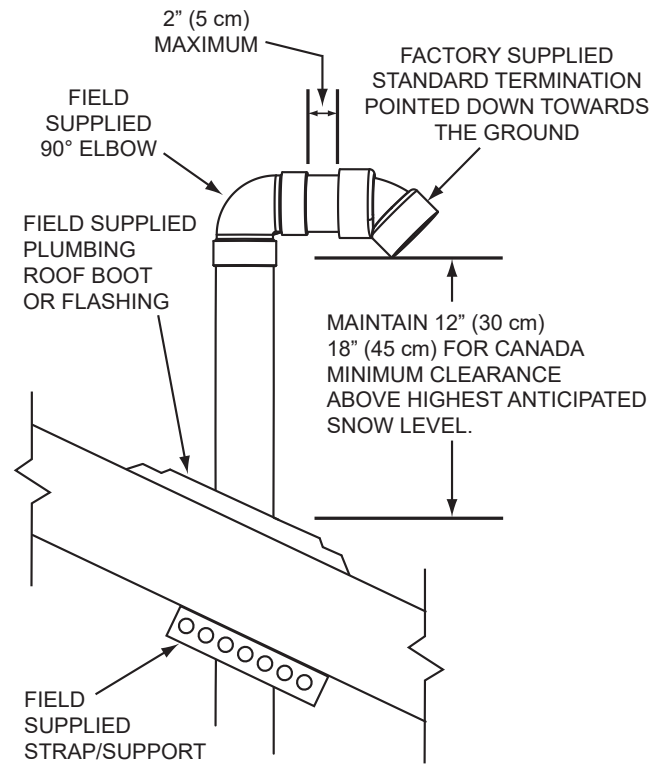
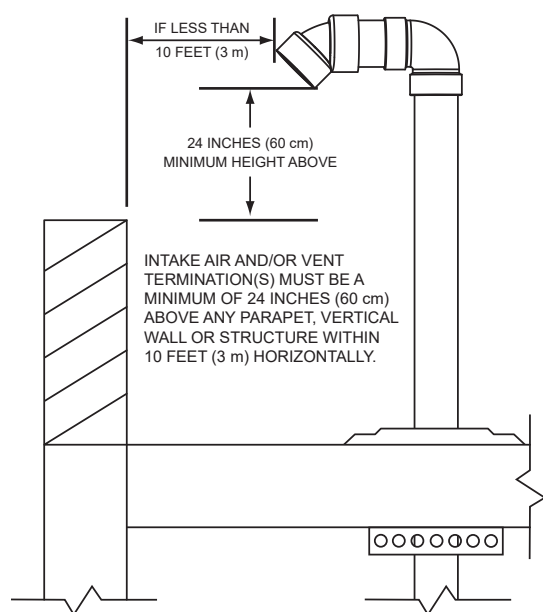
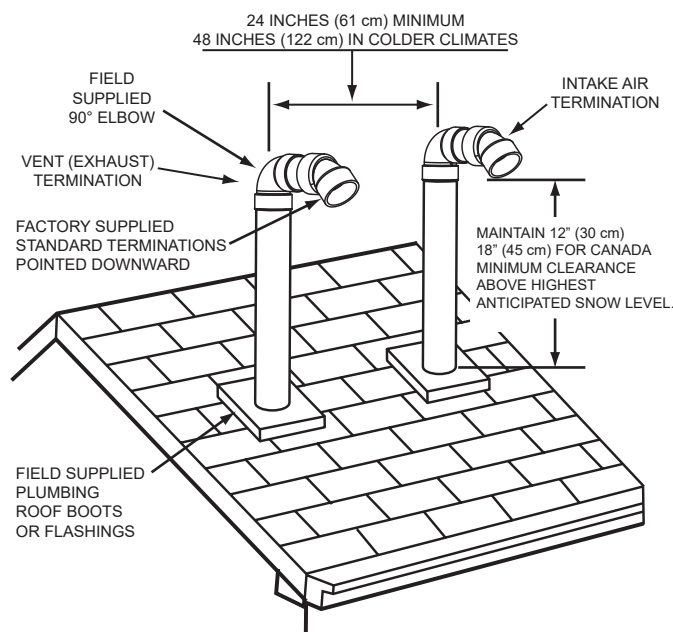

**Figure 31. Vertical Termination(s) Installation**
**Figure 32. Vertical Termination(s) Flat Roof Parapet Clearance**
**Figure 33. Vertical Termination - Direct Vent**
2. If installing only the vent (exhaust) piping in a power-vent configuration vertically through the roof, ensure that all exterior vertical clearance requirements shown in **Figure 31** and **Figure 32** (page 35) are being maintained. These clearances and those cited by local and national codes must be maintained.
wall, or structure within 10 ft (3 m) horizontally. See **Figure 32**.
3. If installing both intake-air and vent piping in a direct-vent configuration vertically through the roof, ensure that all exterior vertical clearance requirements shown in **Figure 31**, **Figure 32** (page 35), and **Figure 33** (page 35) are being maintained. These clearances and those cited by local and national codes must be maintained.
**Note:** On flat roof installations, the intake-air and the vent terminations must be a minimum of 24 in (60 cm) above any parapet, vertical wall or structure within 10 ft (3 m) horizontally. See **Figure 32**.
- A. The vent termination must be oriented facing downward as shown in **Figure 31** and **Figure 32**.
- B. The bottom edge of the vent termination must be a minimum of 12 in (30 cm), 18 in (45 cm) in Canada, above the average or expected snow level as shown in **Figure 31**.
- A. The intake-air and vent pipes must penetrate the same side of the roof as shown in **Figure 33** (page 35).
- B. The intake-air and vent terminations must be oriented facing downward and in the same direction as shown in **Figure 33** (page 35).
- C. The intake-air and vent terminations must have a minimum separation of 24 in (61 cm) measured on the center line, as shown in **Figure 33**. In colder climates, this separation should increase to at least 48 in (122 cm).
- D. The bottom edge of the intake-air and vent terminations must be a minimum of 12 in (30 cm), 18 in (45 cm) in Canada, above the average or expected snow level as shown in **Figure 31** below.
The distance between the closest vent and intake-air terminations must be a minimum of 24 in (61 cm) as shown in **Figure 33** (page 35). In colder climates, this separation should be increased to at least 48 in (122 cm).
8. Suspend the pipe(s) through center of hole using field-supplied metal strapping or equivalent support materials as shown in **Figure 31**.
9. Slide a roof boot or equivalent flashing over the pipe, secure the roof boot or equivalent flashing to the roof (see **Figure 31**), and seal around the flashing.
in **Figure 31**. The short section of pipe that connects between the field-supplied 90° elbow and the factory-supplied termination must not be excessive in length. The exposed portion of this pipe shall be no more than 2 in (5 cm). See **Figure 31**.